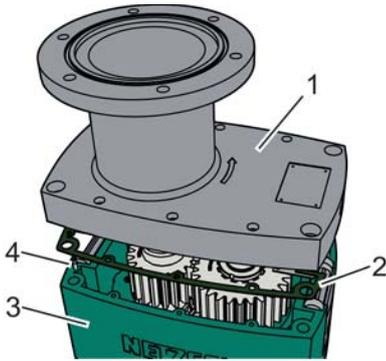

Fig. 145: Positioning the gear cover
30. ➤ Fit the lightly lubricated flat seal (Fig. 145/2) in the correct position onto the positioning pins (Fig. 145/4).
Fit the gearbox housing (Fig. 145/1) on the gear cover (Fig. 145/3) in the correct position and aligned with the positioning pins (Fig. 145/4) with the assistance of a second person as shown.